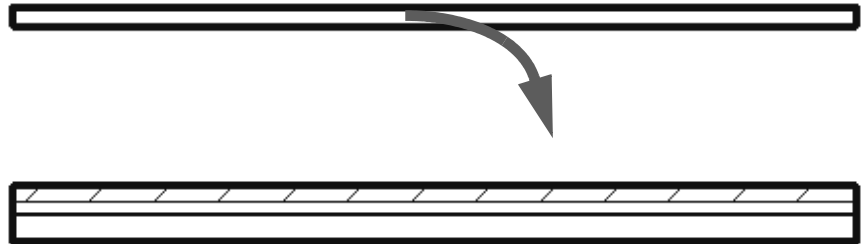

Figure 2–78
5. Where do you change the wall type for a selected wall, as shown in Figure 2–78?